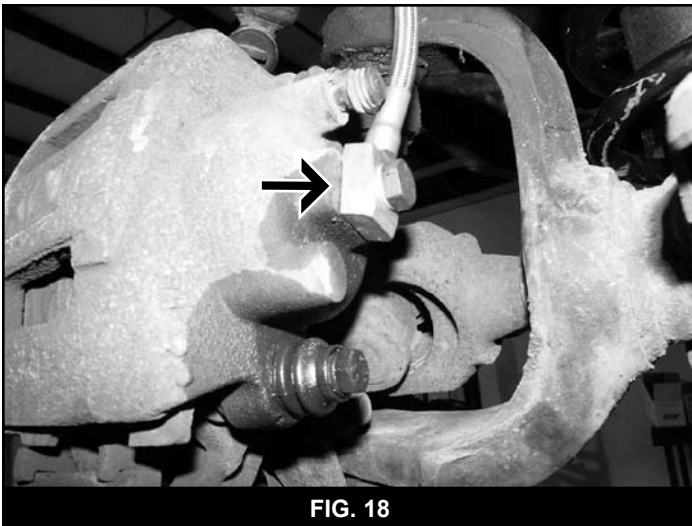

FIG. 18
47. Install lower portion with provided new crush washers and original banjo bolt. **Note:** One washer is required on EACH side of the fitting. Brake line must face up after installation. Torque bolt to 20 ft lbs (Fig 18).